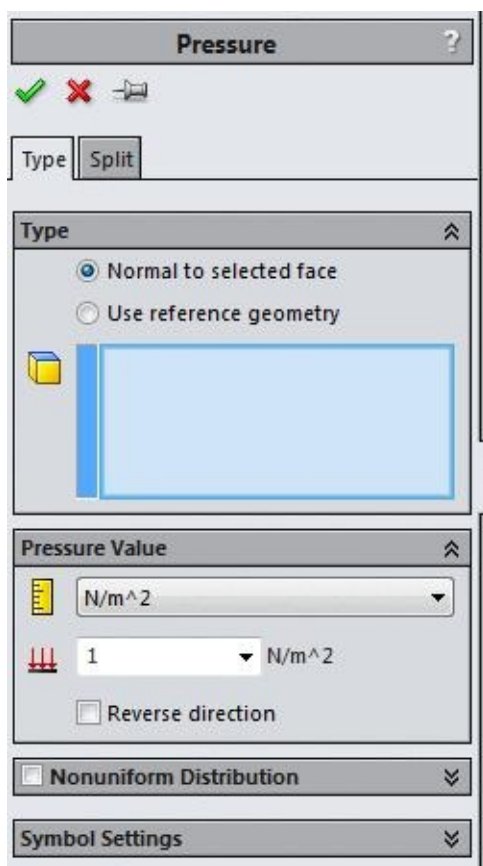

Figure-41. Pressure PropertyManager
- Click on the **Pressure** option from the **External Loads Advisor** drop-down. The **Pressure PropertyManager** will display as shown in Figure-41.